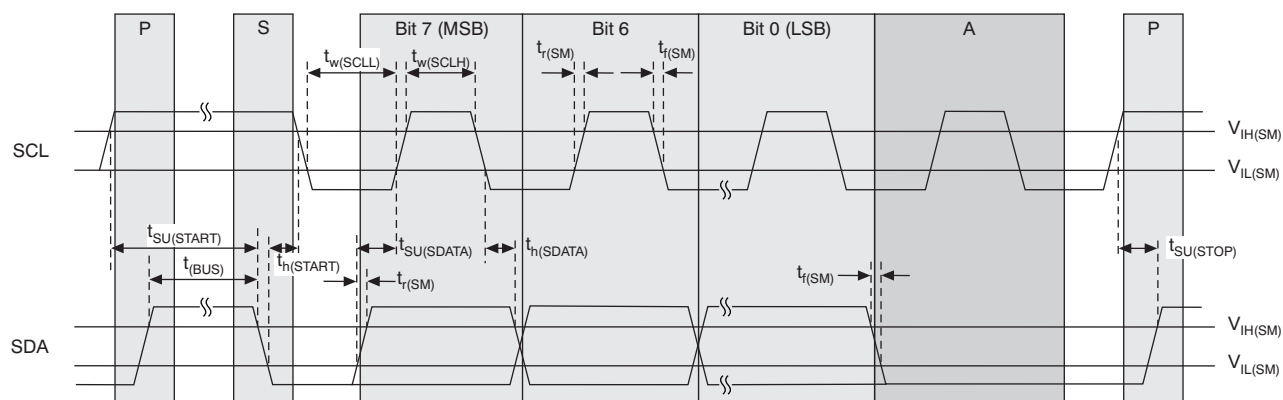

Figure 4. Timing Diagram for the SDA/SCL Serial Control Interface
(1) See Figure 4 for the timing behavior.